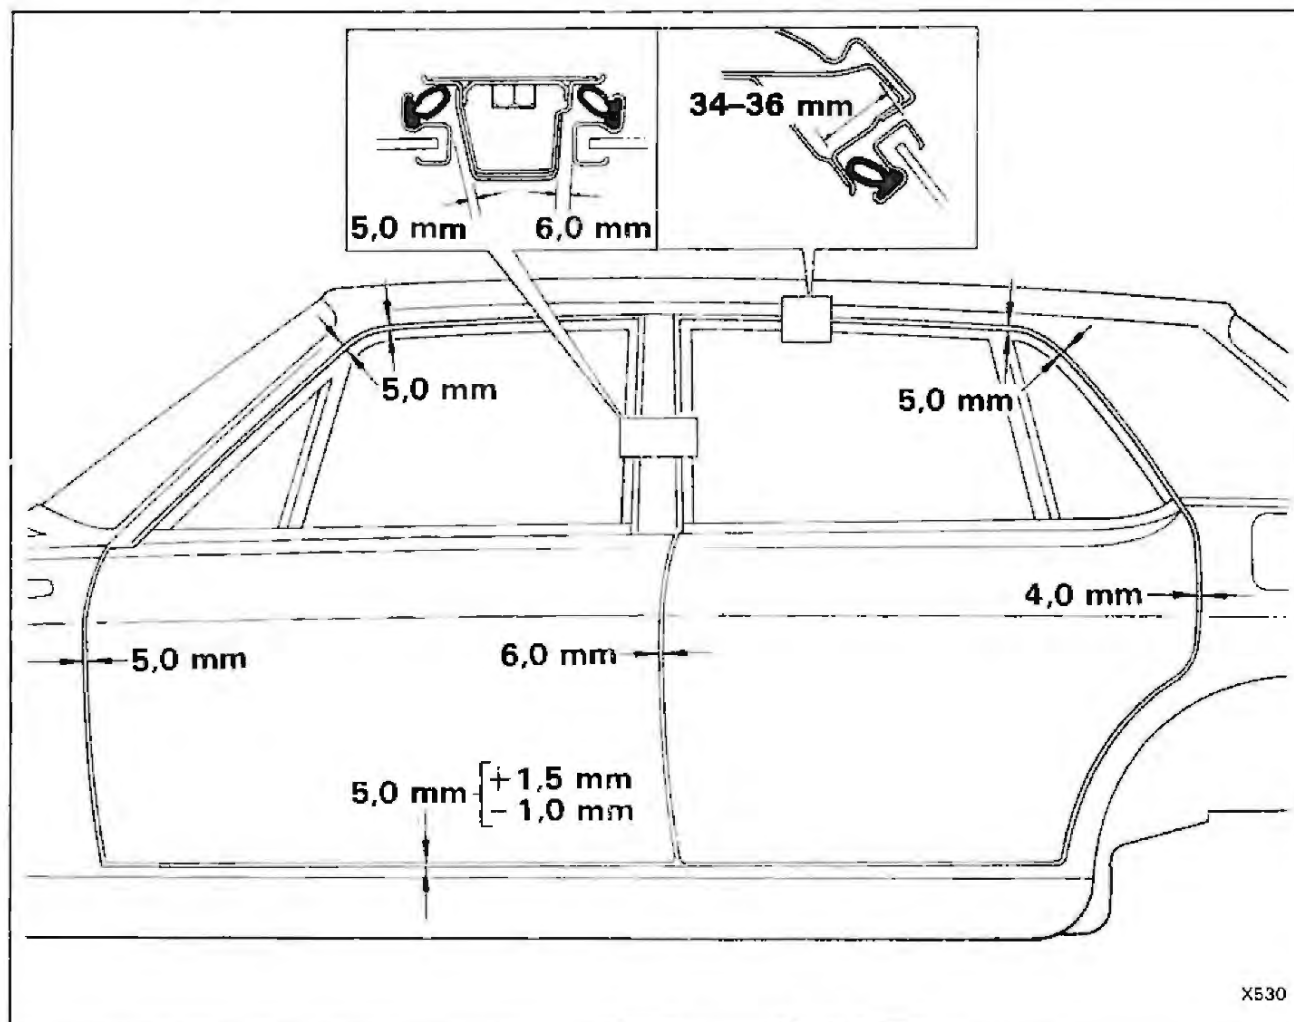

Fig. 2 Position of the door and frame in the body aperture.
3. Check the fitting of the door and window frame to the body and set the frame to the dimensions shown in figure 2.
It is essential that the door frames are set as shown in figure 2. If the frame to seal landing face is less than 34 mm, then the seal is likely to fold over on closing the door.